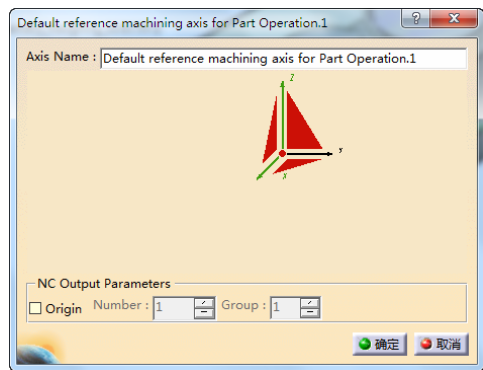

图 2-19 “Default reference machining axis for Part Operation.1” 对话框
- 1) 单击“Part Operation”对话框中的 Default reference machining axis for Part Operation.1 按钮，弹出“Default reference machining axis for Part Operation.1”对话框，如图 2-19 所示。